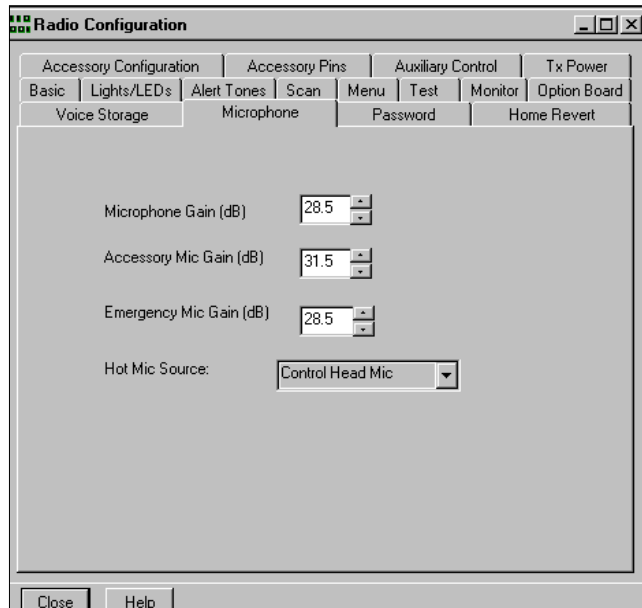

Figure 10-6. Radio Configuration, Microphone, Transmit Radio
- Click on the “Accessory Mic Gain (dB)” up arrow button to increase the gain to “31.5”. Your screen should appear similar Figure 10-6.